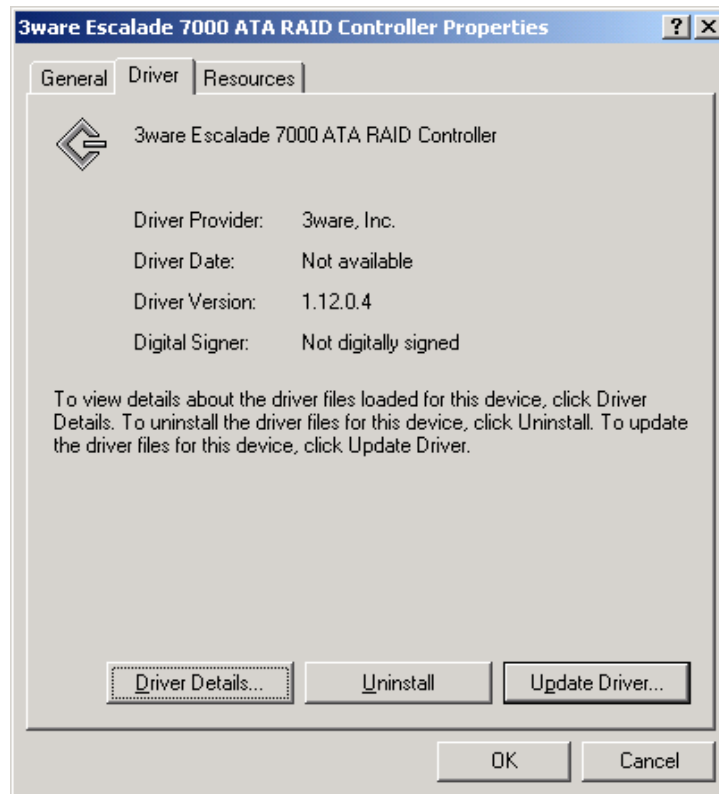

Figure 25. 3ware ATA RAID Controller Properties Display
- 8 Click on the **Driver** tab (see Figure 25).